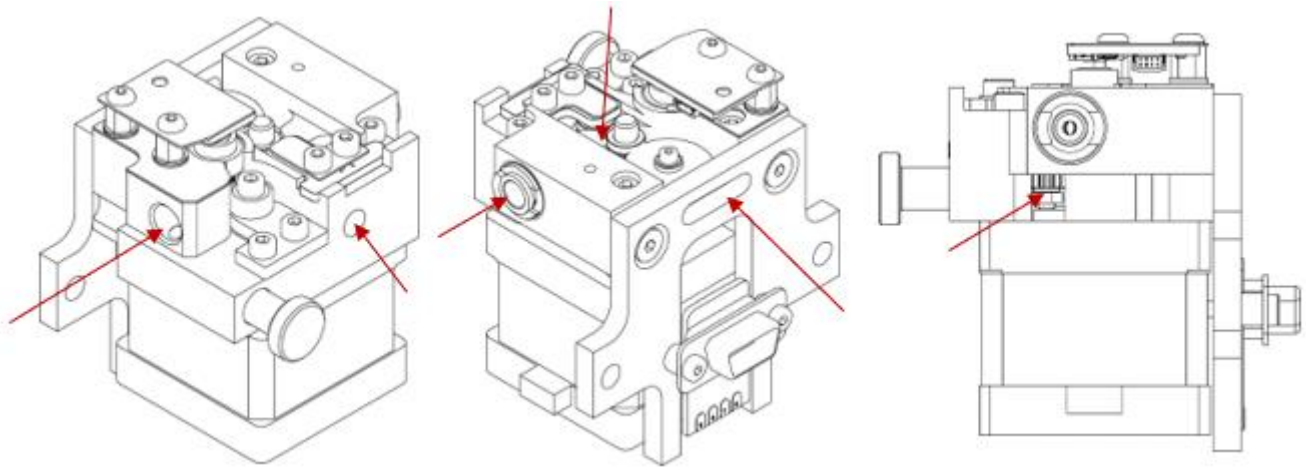

Fig. 87 Places where the extruder should be cleaned with compressed air
13. Clean the extruder from residual material with compressed air. Compressed air should be dry to prevent corrosion of extruder elements. Direct compressed air mainly to the places indicated in Fig. 87. When cleaning, be careful not to damage the D-sub socket and the encoder board. After cleaning, check that the encoder plug on the extruder is not loosened and is firmly connected.